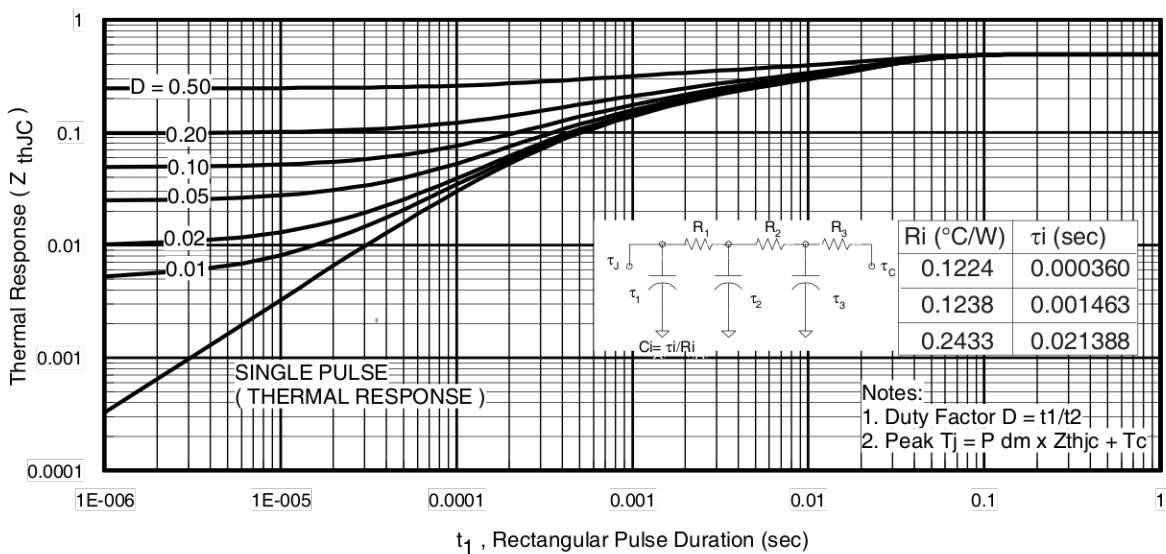
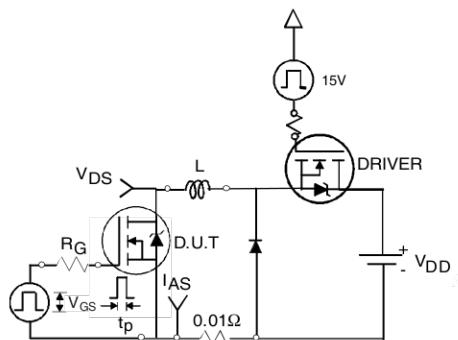

Fig 11. Maximum Effective Transient Thermal Impedance, Junction-to-Case
Fig 12a. Unclamped Inductive Test Circuit
- ① Repetitive rating; pulse width limited by max. junction temperature. (See fig. 11).
- ② Limited by $T_{J\text{max}}$, starting $T_J = 25^\circ\text{C}$, $L=0.13\text{mH}$, $R_G = 25\Omega$, $I_{AS} = 90\text{A}$, $V_{\text{GS}} = 10\text{V}$. Part not recommended for use above this value.
- ③ $I_{\text{SD}} \leq 90\text{A}$, $dI/dt \leq 340\text{A}/\mu\text{s}$, $V_{\text{DD}} \leq V_{(\text{BR})\text{DSS}}$, $T_J \leq 175^\circ\text{C}$.
- ④ Pulse width $\leq 1.0\text{ms}$; duty cycle $\leq 2\%$.
- ⑤ $C_{\text{oss eff.}}$ is a fixed capacitance that gives the same charging time as C_{oss} while V_{DS} is rising from 0 to 80% V_{DSS} .
- ⑥ Limited by $T_{J\text{max}}$, see Fig.12a, 12b, 15, 16 for typical repetitive avalanche performance.
- ⑦ This value determined from sample failure population. 100% tested to this value in production.
- ⑧ R_0 is measured at T_J of approximately 90°C .
3. Equation below based on circuit and waveforms shown in Figures 12a, 12b.
$Z_{thJC}(D, t_{av}) = \text{Transient thermal resistance, see figure 11}$